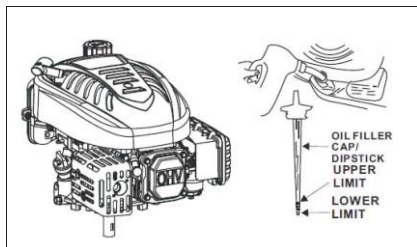

Fig. 9
5. Pour the recommended oil slowly into the oil fill. Do not overfill. After adding oil, wait for one minute and then check the oil lever by using dipstick. Oil lever should be between lower limit and upper limit ( See Fig. 9).